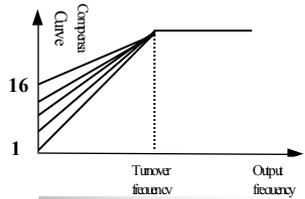

Fig 9-1 Torque Promotion Curve
• There are altogether 16 “beeline torque compensation curves”, which are used to increase the output torque at low frequency. Compensation will be increased with bigger values, as indicated in Fig 9-1.